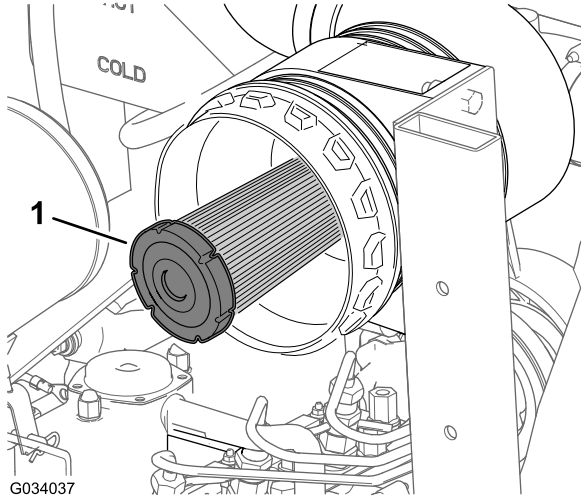

Figure 44
2. Check the air-cleaner safety filter for dust and debris (Figure 44).
Important: Never attempt to clean the safety filter (Figure 44). Replace the safety filter after every 3 primary filter services.